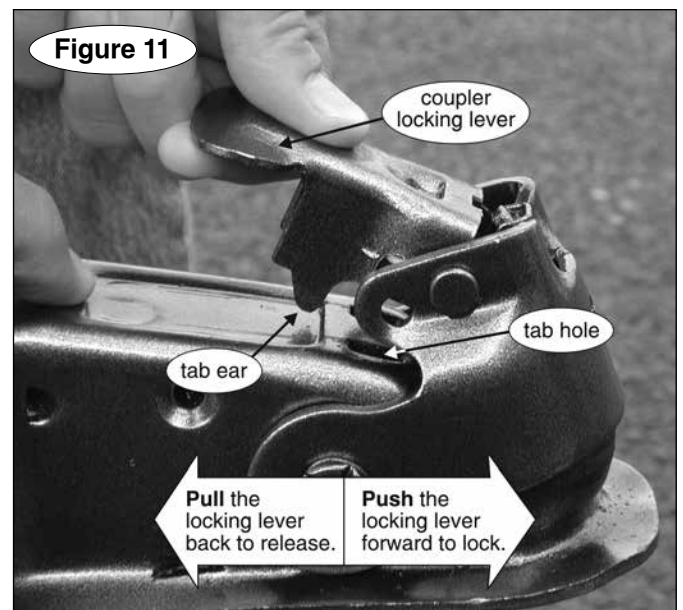

Figure 11
6. With the coupler over the hitch ball, raise the coupler locking lever (Figure 11) until the tab 'ear' (Figure 11) just clears the tab hole (Figure 11), and pull straight back toward the towed vehicle.
Now, lower the coupler over the hitch ball so that it completely covers it, and slide the coupler locking lever (Figure 11) forward until it locks on the ball.
4. Pull back on the coupler locking lever (Figure 11) to release the coupler, and lift the coupler off the ball.